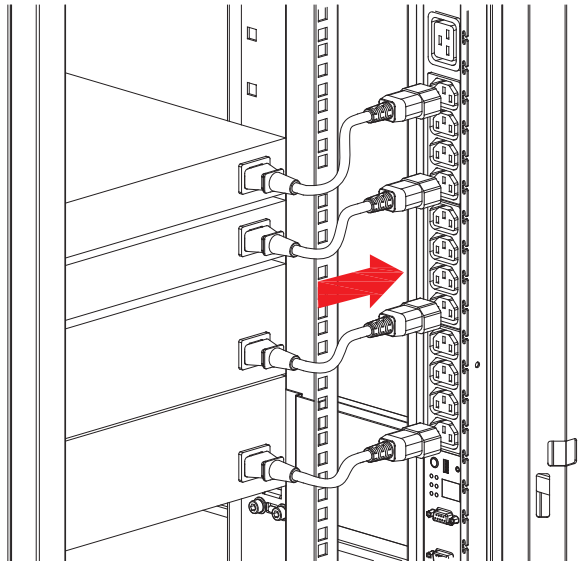

Figure 5
2. Plug the power cords into the PDU's sockets. See **Figure 5**.